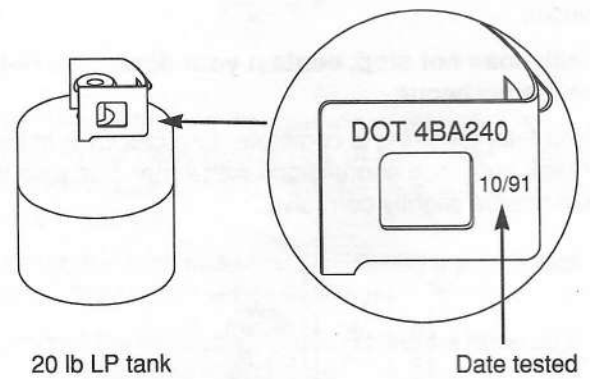

Figure 7
- Weber replacement LP tanks satisfy the requirements. Some other portable, 20 lb LP tanks will work on your Weber Genesis Gas Barbecue also. If you want to use a non-Weber tank, See Step "Set the LP fuel scale", to be sure the tank will fit on the fuel scale. Check to be sure the tank has a D.O.T. certification, and has been tested within five years. Your LP gas supplier can do this for you. Figure 7.